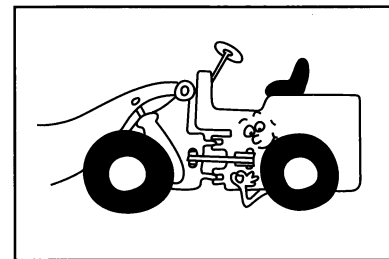

Figure 2-6
- When checking or maintaining the machine, the frames should be locked by a locking bar. (Figure 2-6)